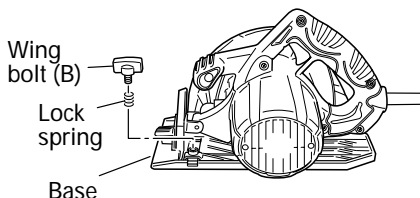

Fig. 6
3. Regulating the guide (Rip fence) (Fig. 6, 7)